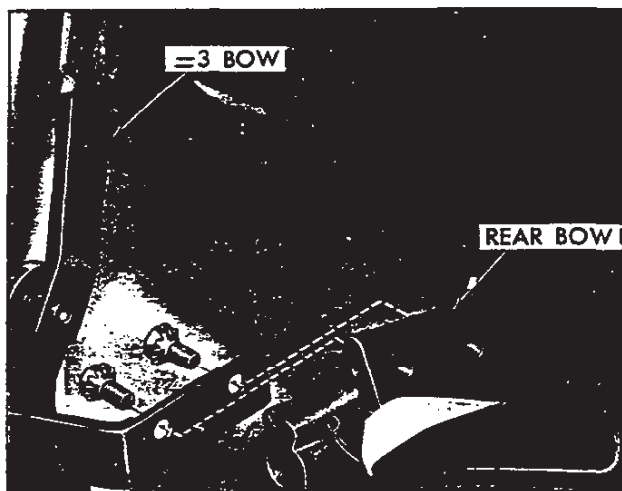

Fig. 71—Rear Bow Retaining Screws
8. Disconnect rear bow from top frame assembly. Two screws remain at each side Figure 71.